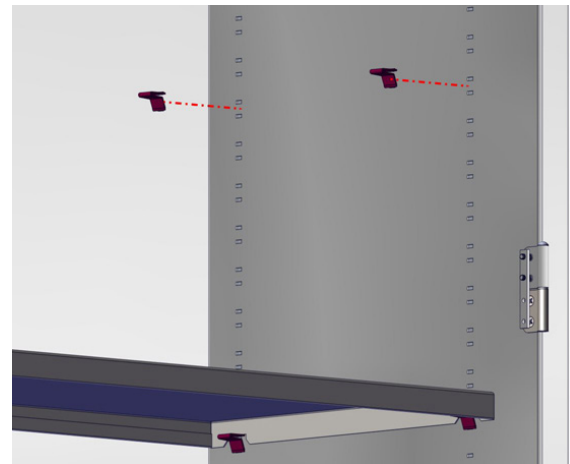

Fig 24: Remove Four Support Tabs and Relocate
3. Remove the four (four per shelf) shelf support clips by tilting the clip upward and lifting out (Fig. 24).